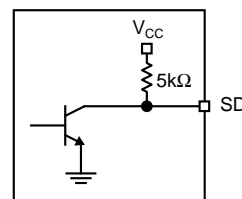

Figure 5. SD Output Structure
The SY88883V generates a chatter-free signal detect (SD) open-collector TTL output with internal $5\text{k}\Omega$ pull-up resistor as shown in Figure 5. SD is used to determine that the input amplitude large enough to be considered a valid input. SD asserts high if the input amplitude rises above the threshold set by SD_{LVL} and deasserts low otherwise. Typically 4.6dB SD hysteresis is provided to prevent chattering.